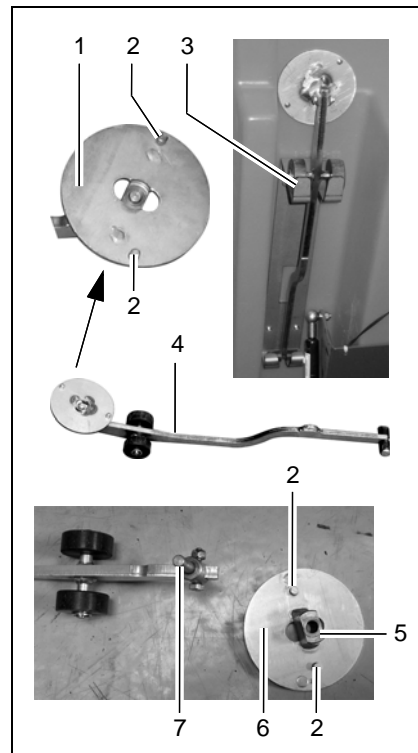

Fig. 6
To simplify assembly and disassembly of the middle brush or pad in particular, an assembly tool (Fig. 6/4) is provided which is kept in a corresponding holder (Fig. 6/3) under the seat console which can be opened out.
Both sides of the plate (Fig. 6/1+6) of the assembly tool (Fig. 6/3) can be used:
- To assemble the brushes, the flat side of the plate (Fig. 6/1) must face upwards.
- To assemble the pads, the side of the plate with the dowels (Fig. 6/5) must point upwards (Fig. 6/6).
There are dowels (Fig. 6/2) on both sides of the plate which serve to center the brush or pad on the assembly tool.
2. Remove the plate (Fig. 6/1+6) from the dowels (Fig. 6/7).
3. Turn the plate (Fig. 6/1+6) around.
4. Fit the plate (Fig. 6/1+6) the other way around on the dowels (Fig. 6/7).